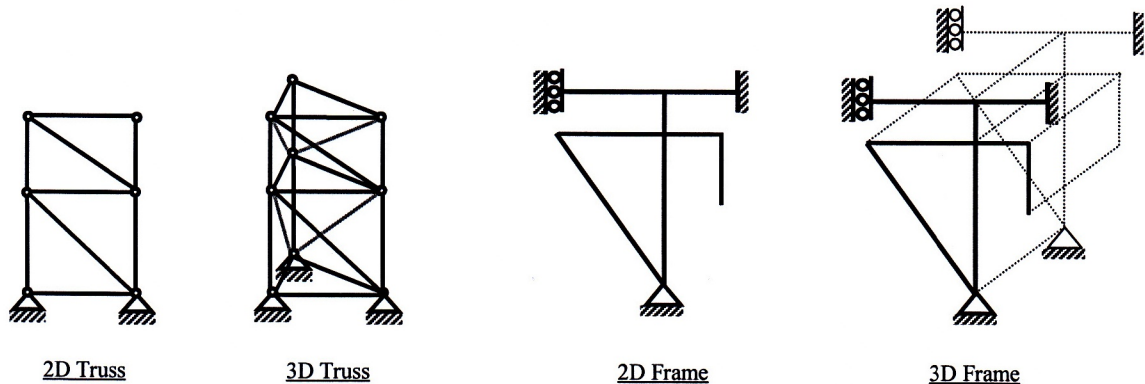

Fig. 11
14. Determine the size of the stiffness matrices (with and without considering boundary conditions) of the trusses and frames shown in *Fig. 11*. Also determine the size of the stiffness matrices of the frames if axial deformations are neglected.